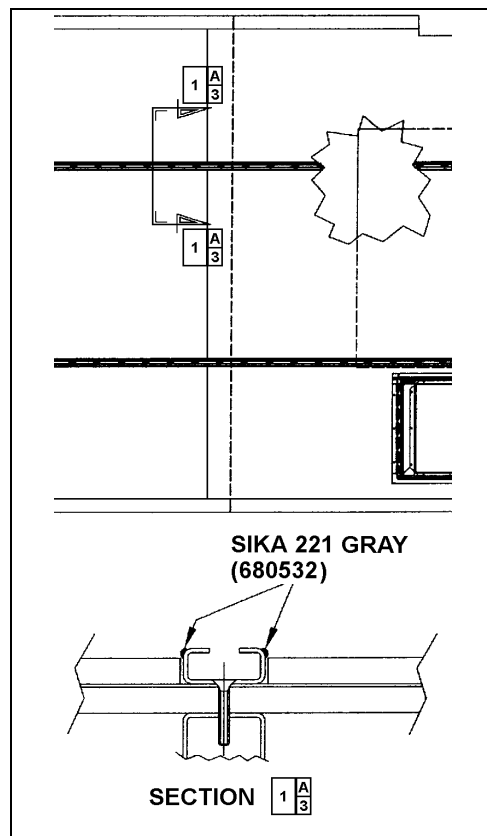

FIGURE 26: APPLICATION OF SIKI 221 GRAY
8. Apply Sikaflex 221 gray sealant (680532) alongside passenger seat fixing tracks (refer to figure 26).